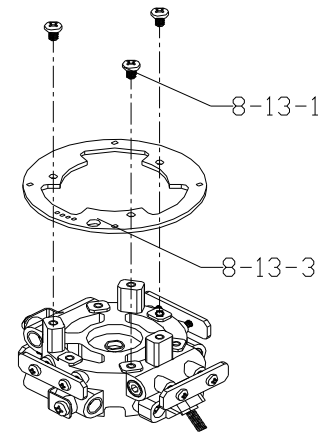

Figure 20
1. Reference section 1.3.1, figures 6 and 7 of this document to remove gimbal assembly, motor laser, etc. See Figure 20.